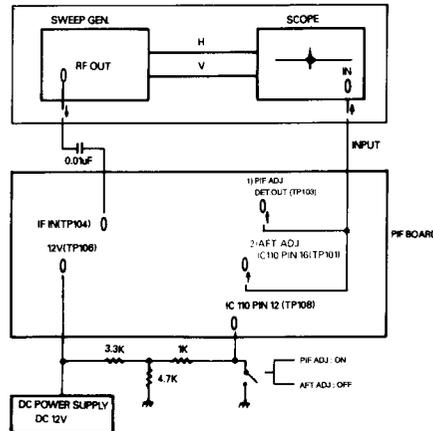

Figure 3. PIF and AFT Adjustment
- (1) Connect as shown in figure 3, and then DC power supplies on.